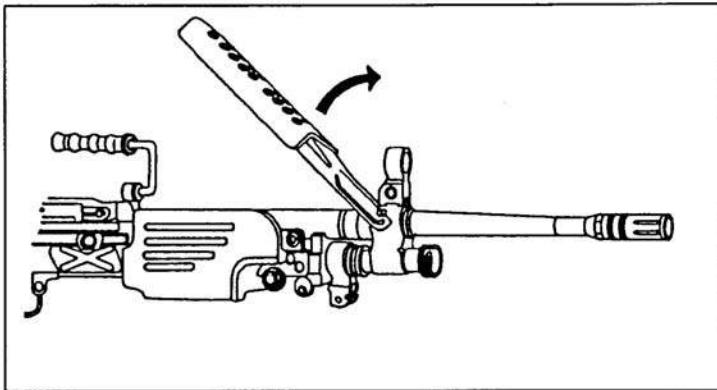

Figure 071-312-4025-6. Removal of the heat shield
- d. Remove the barrel (figure 071-312-4025-7).
(1) Ensure that the folding handle on the new style barrel is in the carrying (up) position.
(2) Depress the barrel-locking lever with your left hand. Grasp and lift the carrying handle with your right hand. Push the barrel forward.